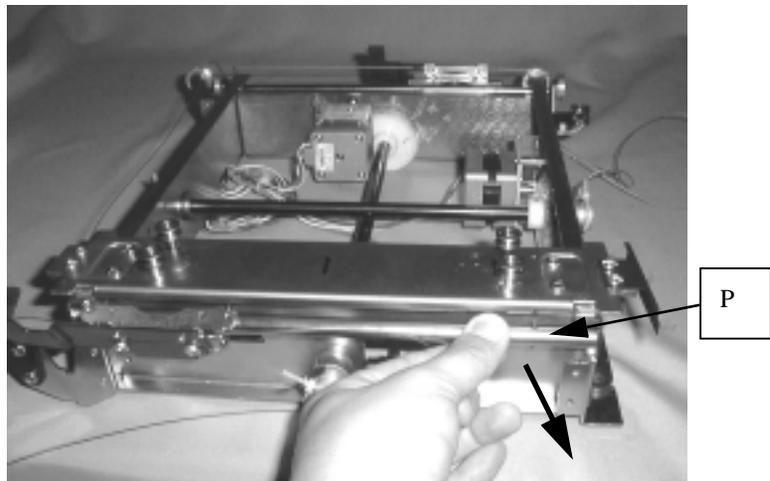

FIGURE 14-4
8. Push the X-guide bar (P) slightly downward in the arrow direction as shown in Fig.14-4.